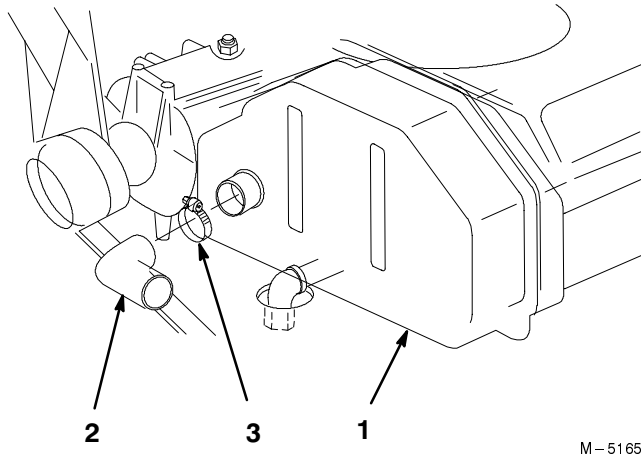

Figure 1
2. With the exhaust elbow outlet directed toward the front of the machine, fit the elbow over the exhaust outlet tube (Fig. 1).